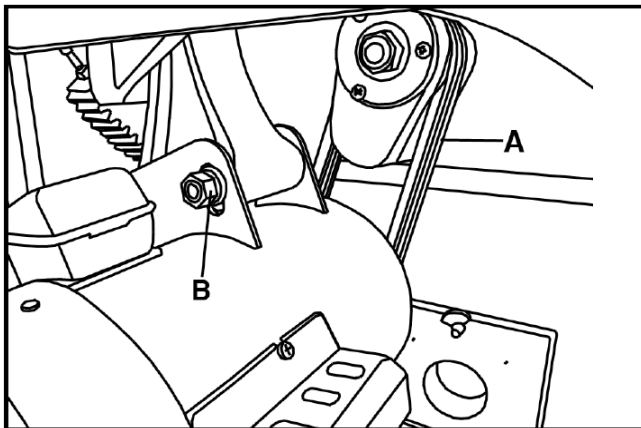

Fig.32
2. Loosen the hex nuts that secure the motor (see **Fig.32**) and raise the motor fully to remove tension on the V-belts. Roll the V-belts off of the arbor and motor pulleys.